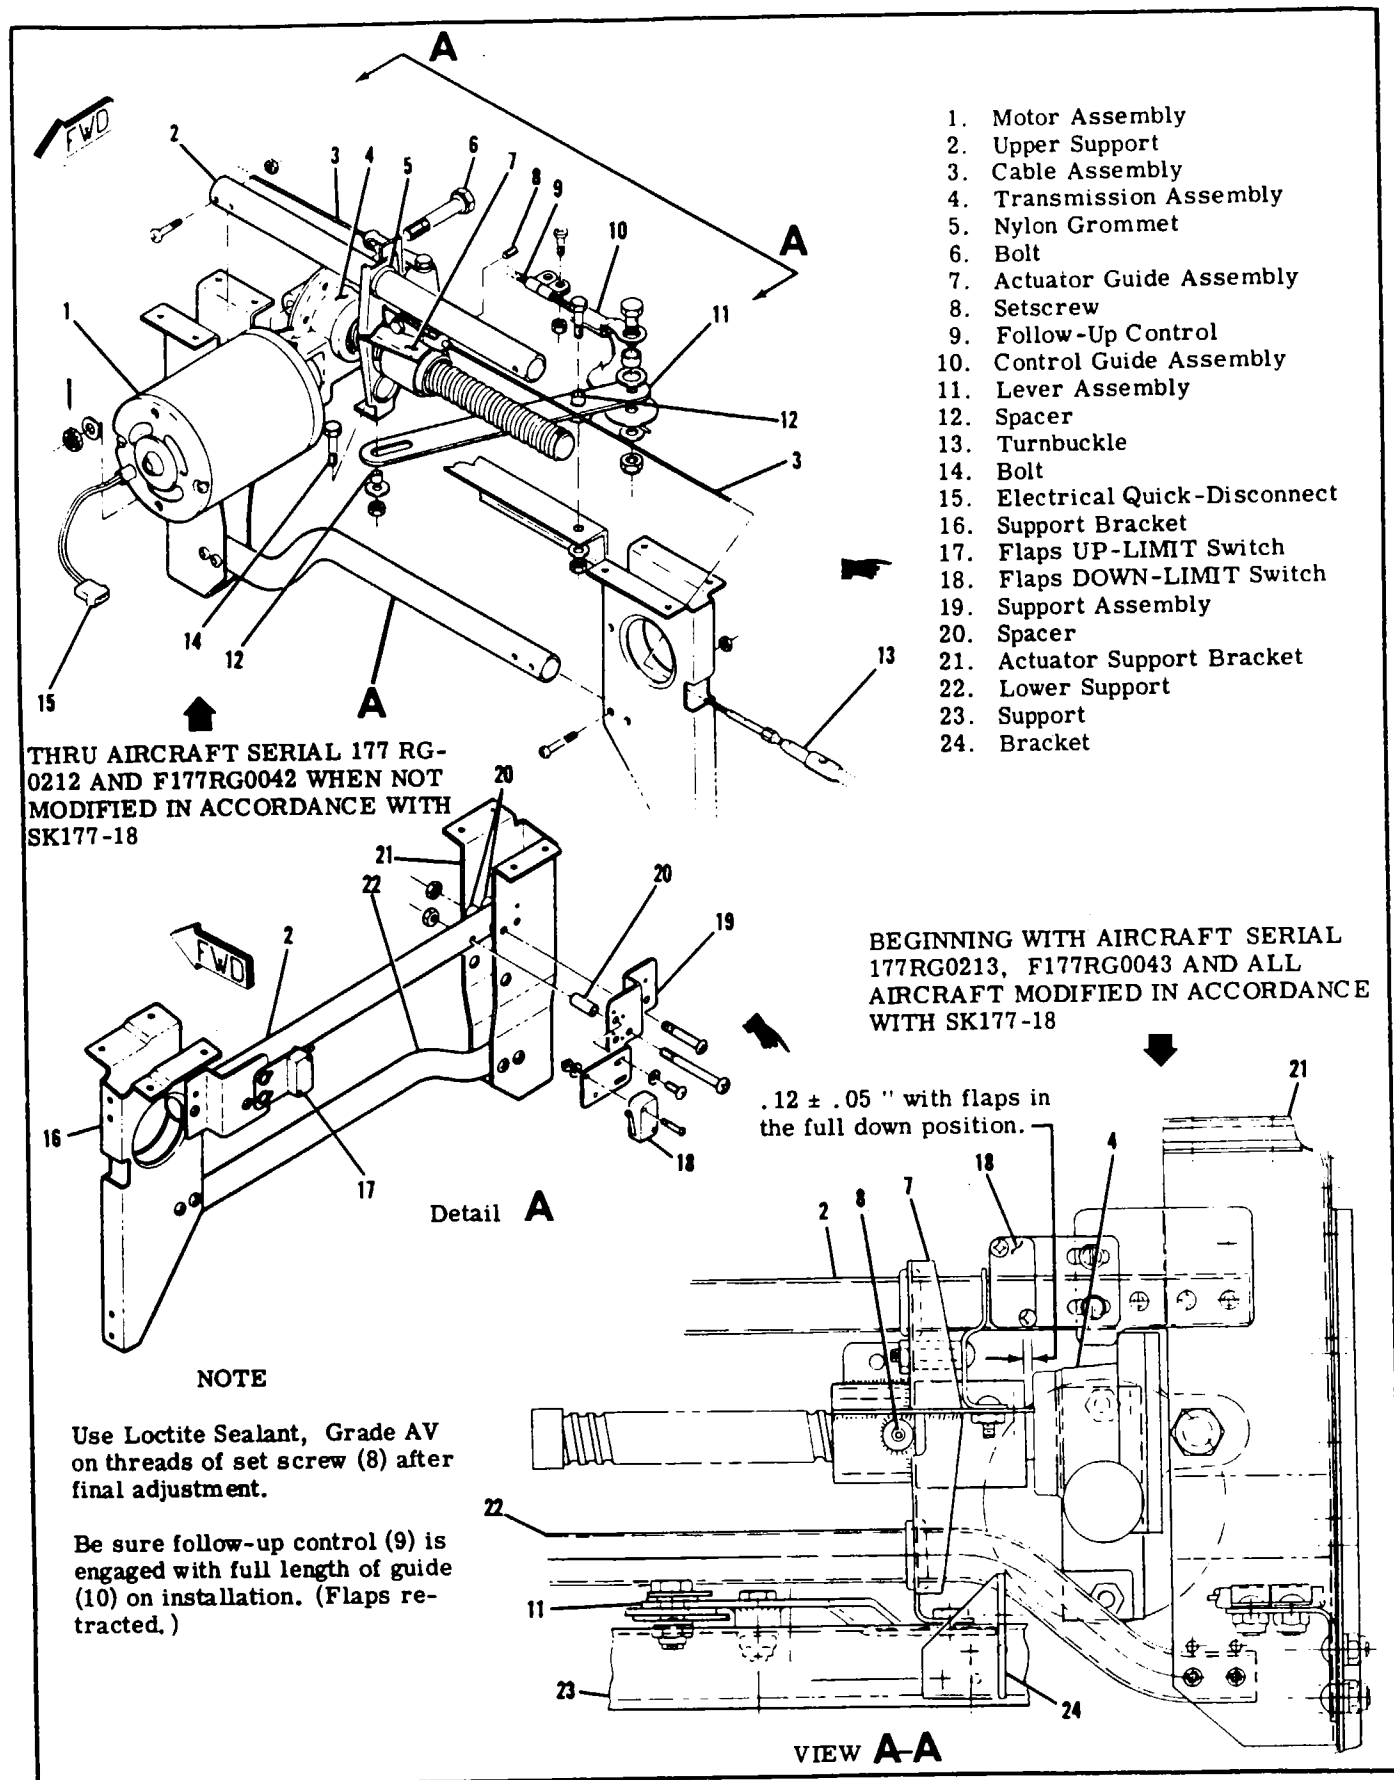
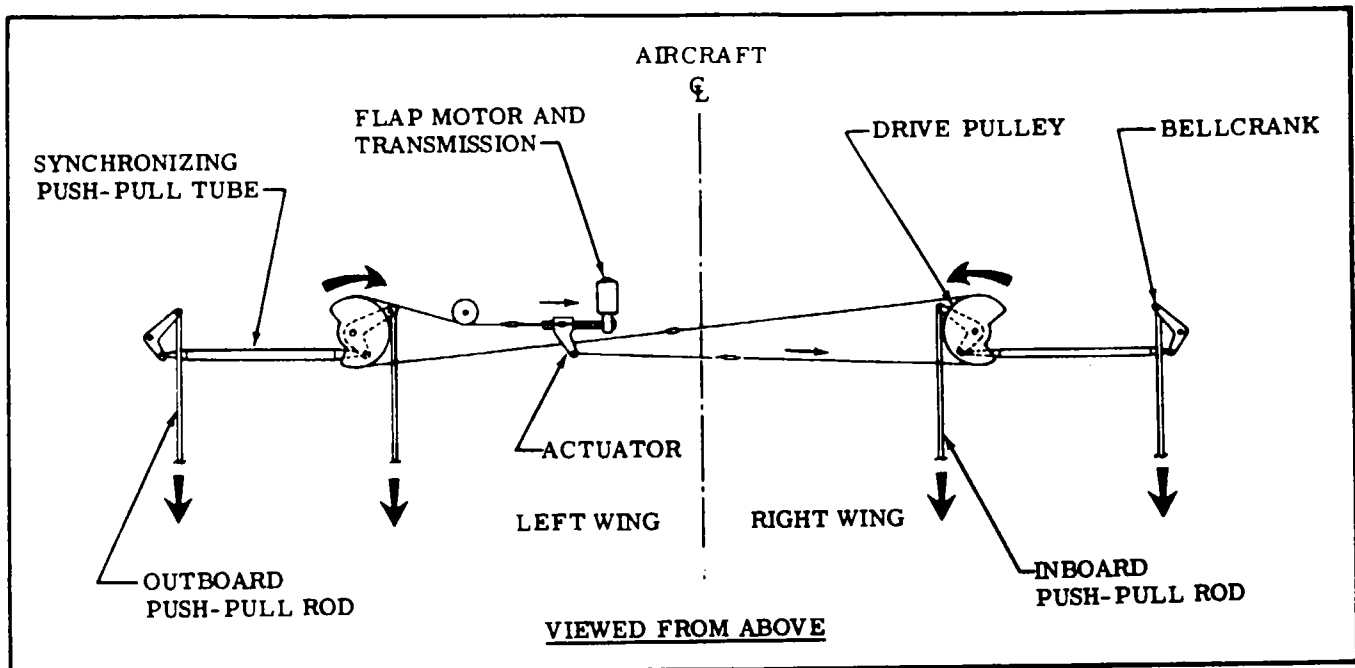

Figure 7-2. Flap Motor, Transmission and Actuator Installation
Figure 7-4. Flap System Schematic
- e. (Refer to figure 7-2.) Disconnect direct cables (3) from actuator guide assembly (7).
- f. Remove bolt (14) securing follow-up control lever (11) to actuator guide assembly (7).
- g. Remove screws securing lower support (22) to brackets (16 and 21).
- h. Remove bolt (6) securing motor and transmission assembly to bracket (21). Move lower support (22) and motor and transmission assembly outboard to allow access to upper support screws.
- i. Remove screws securing upper support (2) to brackets (16 and 21). Place switches (17 and 18) and all attaching hardware out of the working area.
- j. Slide the lower support (22) out of grommet in the actuator guide assembly (7) and remove support from the wing.
- k. Disconnect electrical quick-disconnect (15).
1. Using care, remove motor (1), transmission (4), actuator guide assembly (7) and upper support (2) from wing through access opening as a unit.
- c. Disconnect cables at drive pulleys (2).
- d. Disconnect cables at actuator assembly (index 7, figure 7-2).
1. (Refer to figure 7-2.) Run flaps to the FULL DOWN position.
5. Disconnect both synchronizing push-pull tubes (1) at the drive pulleys (2) and bellcranks (15).
6. If the cables are to be replaced, and the drive pulleys (2) ARE installed in the wings, rotate the drive pulleys beyond their normal range of travel to permit cable attachment. If the drive pulleys ARE NOT installed in the wings, it may be easier to attach the cables prior to installing the drive pulleys in the wings.
7. Attach the direct and carry-thru cables in accordance with schematic in figure 7-4.
8. Adjust the synchronizing push-pull tubes (1) to 41.94" between centers of rod end holes, tighten jam nuts and install push-pull tubes.
9. Adjust inboard push-pull rods (9) to 12.12" and outboard push-pull rods (16) to 11.57" between centers of rod end holes, tighten jam nuts and install push-pull rods.
11. (Refer to figure 7-2.) Run flaps FULL UP AND FORWARD and adjust UP-LIMIT switch (17) to operate and shut-off motor at this position.
b. BEGINNING WITH AIRCRAFT SERIAL 177RG-0213, F177RG0043 AND ALL AIRCRAFT MODIFIED IN ACCORDANCE WITH SK177-18. (Refer to figure 7-2.)
2. (Refer to figure 7-2.) Using the external power source and jumpers, run the actuator guide assembly (7) to $.12 \pm .05$ " between guide assembly (7) and transmission (4) as illustrated in VIEW A-A. Adjust the DOWN-LIMIT switch (18) to operate and shut-off motor at this position. **DO NOT ALLOW GUIDE ASSEMBLY TO SEAT AGAINST TRANSMISSION.**